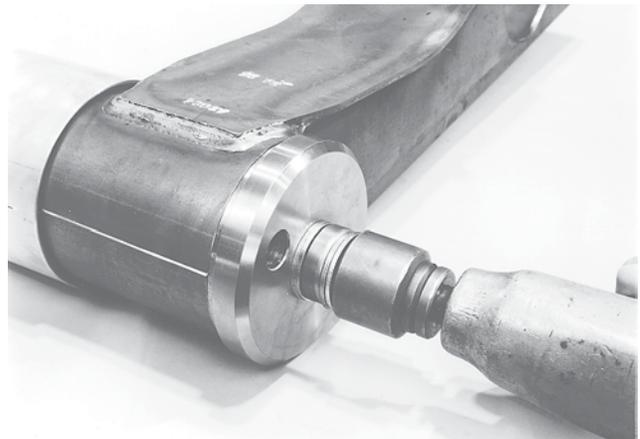

Figure 44: Installing bushing with impact wrench
13. **Using** a 3/4-inch impact wrench and a 1¹¹/₁₆-inch heavy-duty (six-point) impact socket, **install** the bushing by turning the hex head bolt clockwise (Figure 44).